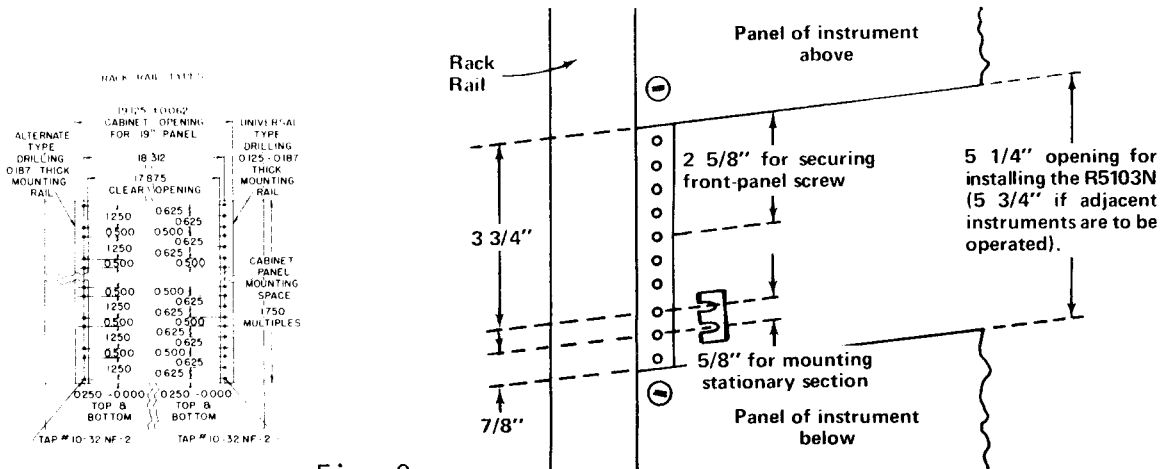

Fig. 2
1. To mount the instrument directly above or below another instrument in a cabinet rack, select the appropriate holes in the front rack rails for the stationary sections, using Fig. 2 as a guide.